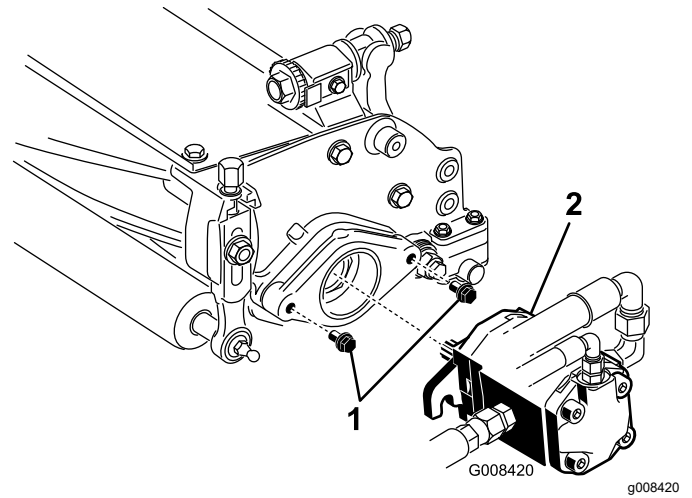

Figure 8
- Ensure that there is approximately 13 mm (1/2 inch) of the threads exposed on each reel-drive-motor mounting bolt (Figure 8).
- Coat the motor spline shaft with clean grease and install the motor by rotating the motor clockwise so that the motor flanges clear the studs. Rotate the motor counterclockwise until the flanges encircle the studs (Figure 8).
- Tighten the mounting bolts (Figure 8).